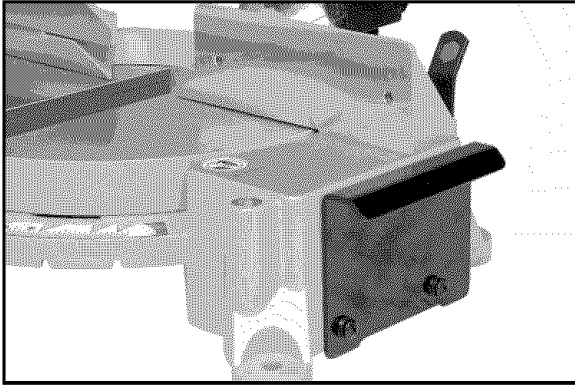
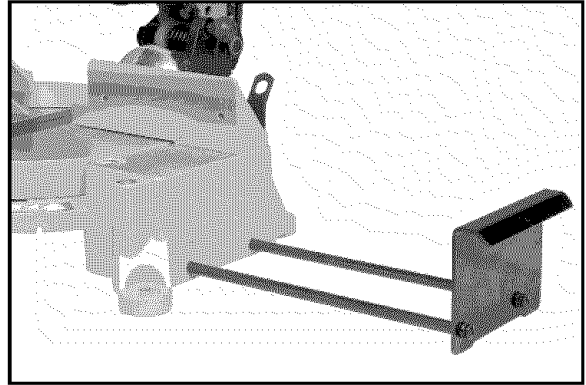

Fig. 29D
Fig. 29E
This machine has two side supports to (1) help stabilize the machine, and (2) to help support long or wide workpieces. The supports are located on either side of the table. The machine comes with the supports pushed in (Fig. 29D). To utilize the supports, pull them out to their full length (Fig. 29E).